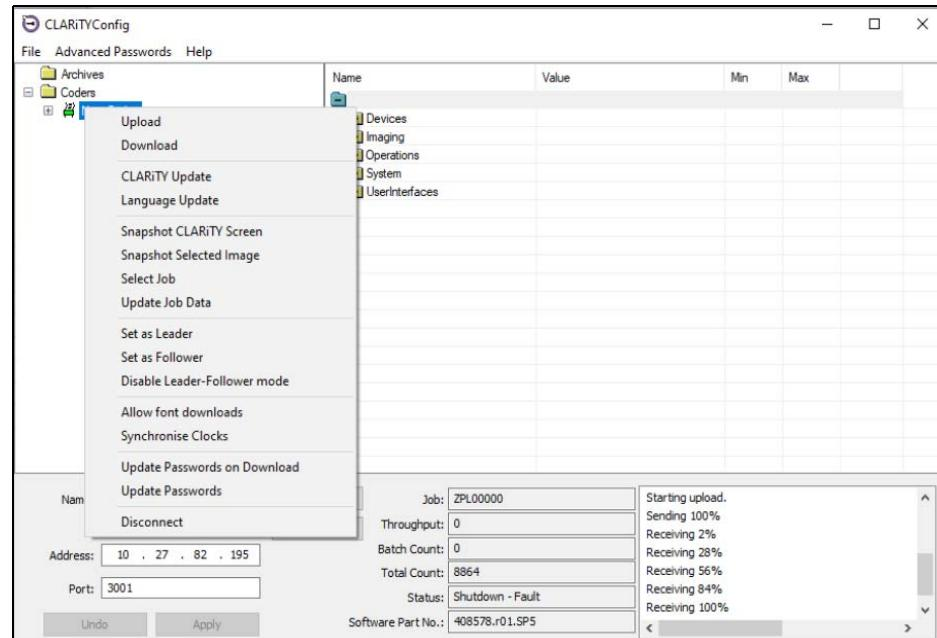

Figure 8-12: CLARiTY Config - Leader Setup
- 2 Right click on the ‘New Printer’ icon when the icon turns ‘green’ and Select ‘Set as Leader’, from the list as shown in Figure 8-12.